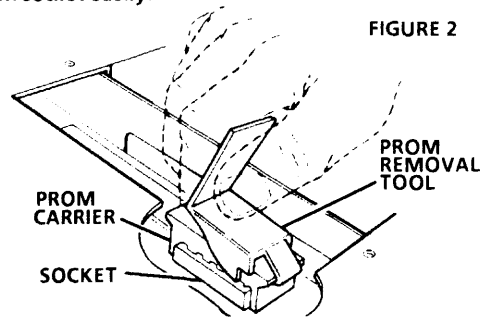

FIGURE 2
## Remove or Disconnect, (Figures 2 & 3)
3. PROM using the rocker-type PROM removal tool shown. Grasp the carrier by the narrow ends only in Figure 2. Engage one end of the PROM carrier with the hook end of the tool. Press on the vertical bar end of the tool and rock the engaged end of the PROM carrier up as far as possible. Engage the opposite end of the PROM carrier in the same manner and rock this end up as far as possible. Repeat this process until the PROM carrier and PROM are free of the PROM socket. The PROM carrier with PROM in it should lift off of the PROM socket easily.